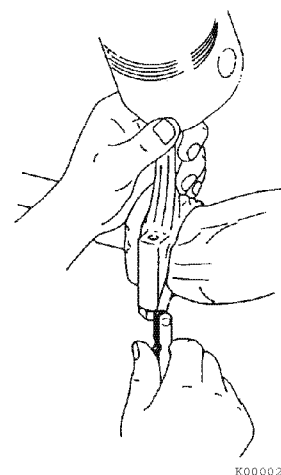

Figure 6-52
1. Using a feeler gauge, measure the connecting rod side clearance as shown (**Figure 6-52**). See *Connecting Rod* on page 6-8 for the standard limit. If the measurement is out of specification, replace the crankshaft, connecting rod, or both.